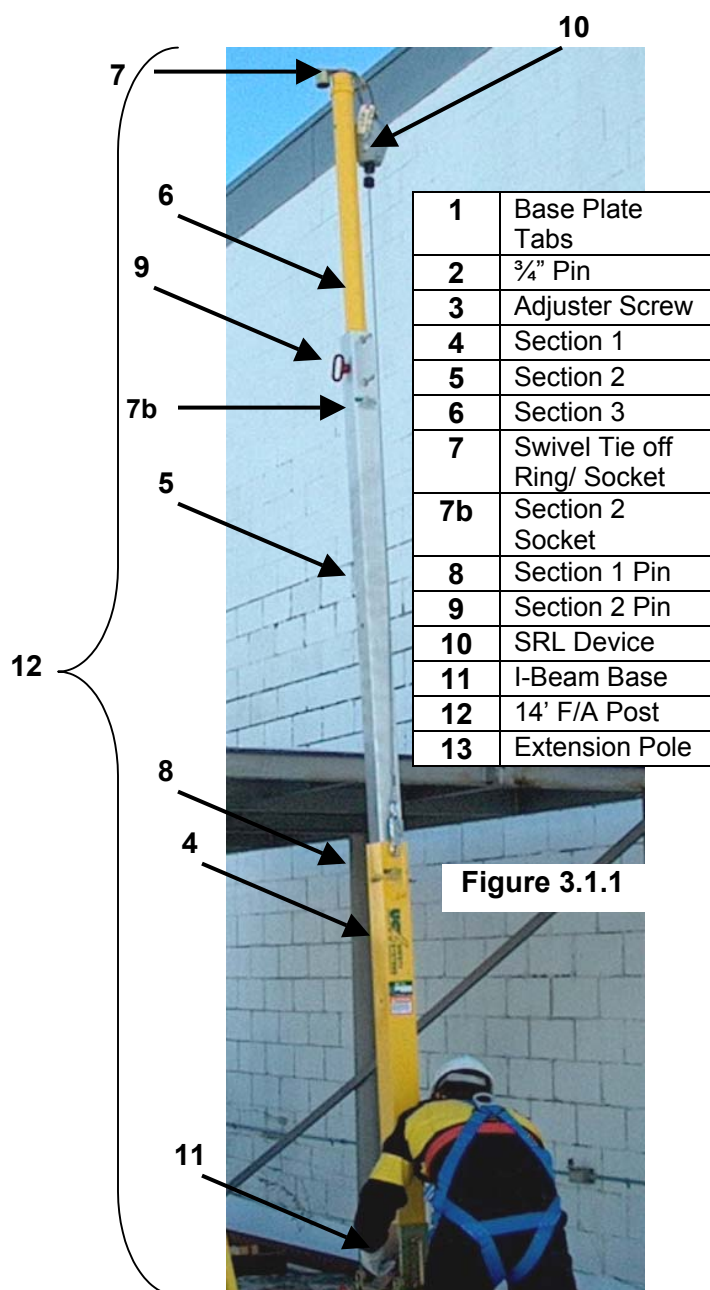
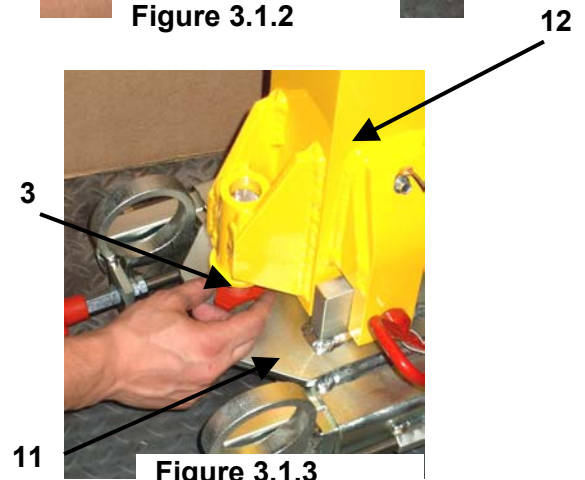

Figure 3.1.1
Figure 3.1.3
Step 5: The 14' Portable Fall-Arrest Post (Fig. 3.1.1) must be in a vertical position at all times when it is being used as a Fall-Arrest anchor point. Depending on the type of base you are using the Post may be leveled by using the adjuster screws (3) the base plate (11) or a combination of these, shown in Figure 3.1.3. The adjuster screws are alternately loosened and tightened to level the Post.